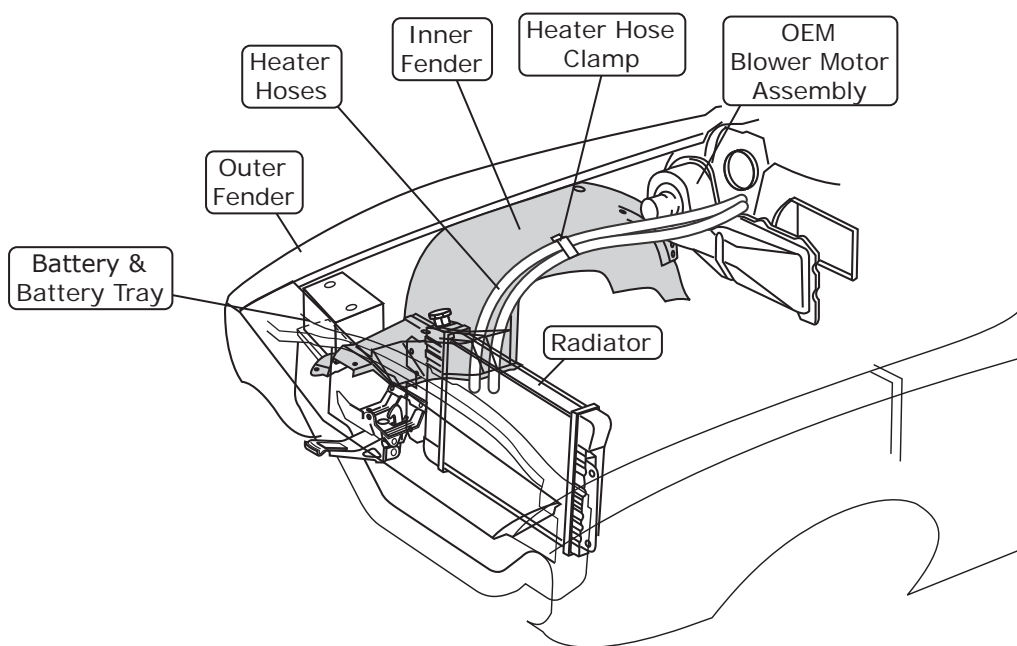

Figure 1
2. Remove the battery and battery tray (retain) (See Figure 1, below).
4. Remove the OEM heater hoses (discard) (See Figure 1, below).
5. Remove the OEM blower motor assembly (See Figure 1, below). **NOTE:** To remove the blower assembly (under hood) and the air distribution system (under dash), the factory manual recommends the following: Remove the right lower rocker molding. Remove the fender attaching bolts. Remove the skirt-to-fender and skirt-to-reinforcement screws. Pull out on the lower portion of the fender, moving the skirt away from the fender flange and firewall. Block the skirt with a 2" x 4" block of wood. To avoid damage to the paint and sheet metal, and for ease of removal and replacement of components, Vintage Air recommends that the right fender be removed, and the inner panel lowered. Removing the right-front tire will provide easier access to the inner fender bolts.